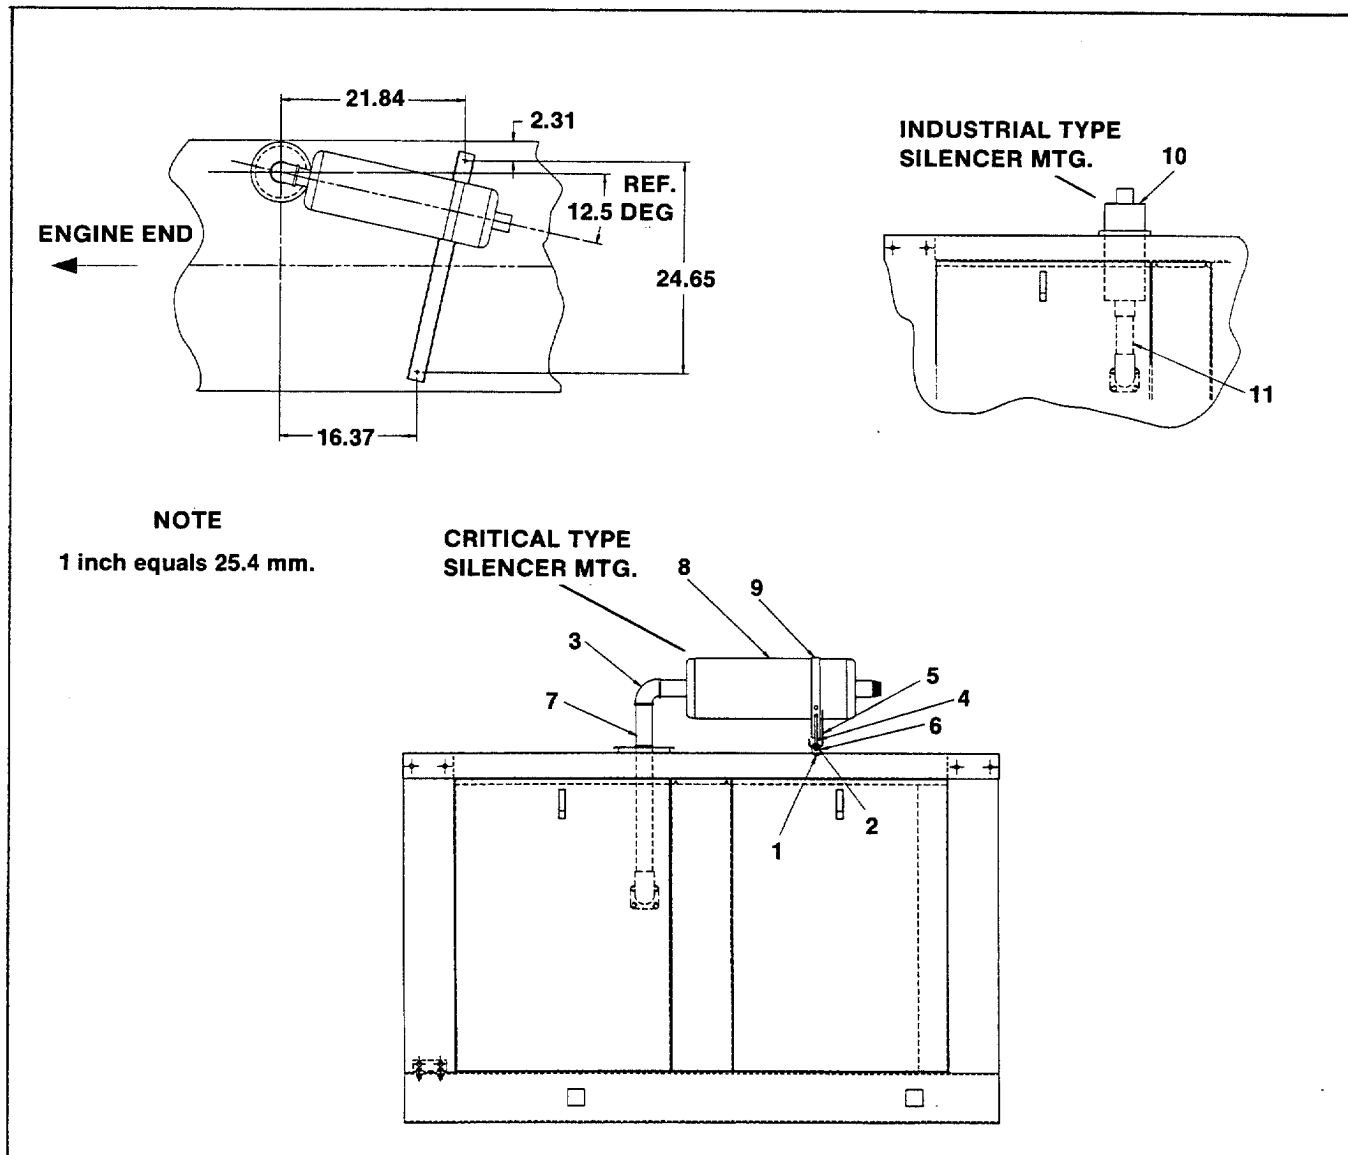

Figure 1. Silencer Mounting
Refer to the respective set of general installation instructions and follow all safety precautions when assembling. See Figure 1 and part listing for identification and location of parts.
4. Install elbow onto rain disc/pipe assembly and tighten. See Figure 1 for approximate angle.
5. Position silencer bracket using dimensions given in Figure 1. Using silencer bracket as a template, drill two 281 in. (7.1 mm) dia. holes in housing roof. Locate holes at each end of silencer bracket.